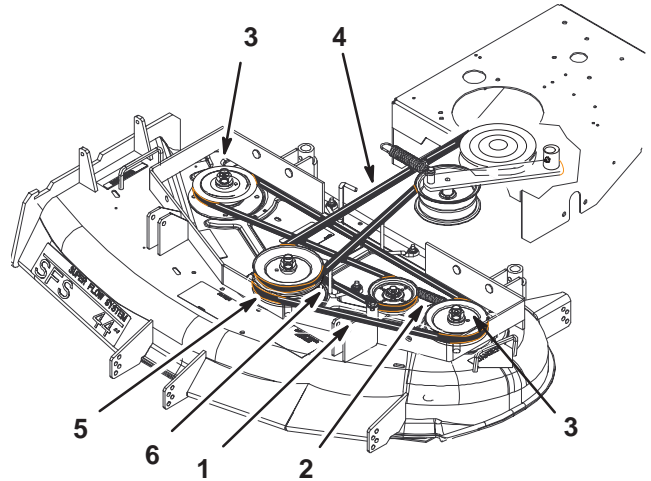

Figure 70
9. Adjust deck belt guide an 1/8 in. (3 mm) from belt (Fig. 70).
5. Disconnect the idler arm spring to relieve tension on the idler arm and idler pulley, then remove the worn deck belt (Fig. 70).
6. Install the new deck belt around the two outside spindle pulleys, the idler pulley, and in the lower groove of the center spindle pulley (Fig. 70).
7. Connect the idler arm spring (Fig. 70).